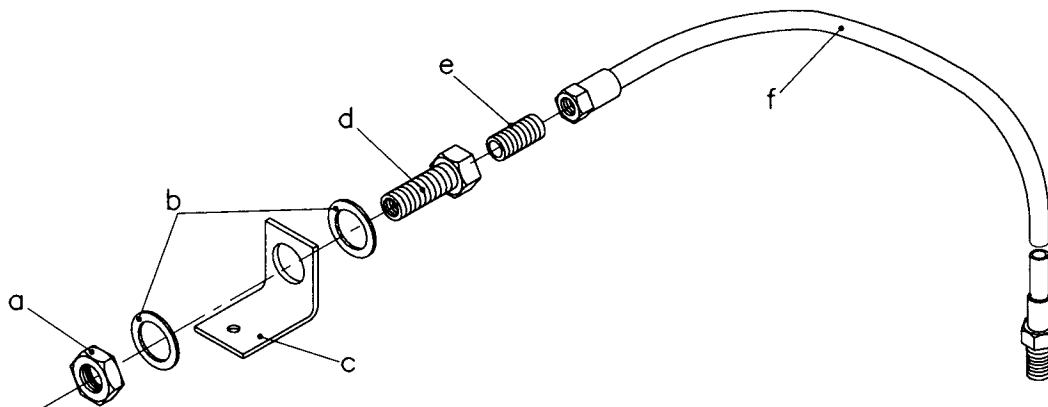

Figure 1 – Front Hub Breather Extension Tube
11. *Modification of Front Hub Breathers.* Figure 1 provides a representation of an assembled breather kit. The procedure for fitting the breather kit is as follows: